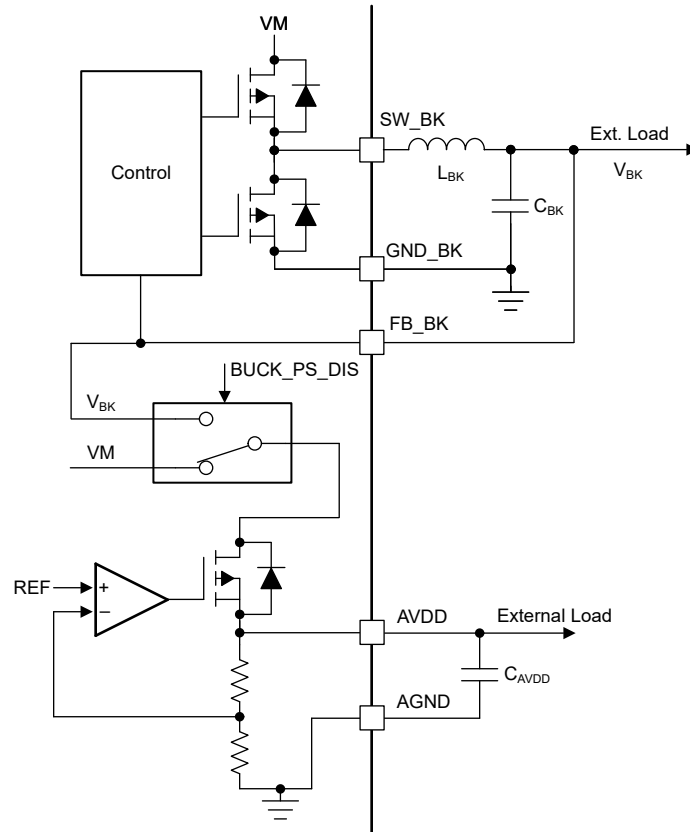

图 8-11. AVDD Power Sequencing on mixed mode Buck Regulator
The AVDD LDO has an option of using the power supply from mixed mode buck regulator to reduce power dissipation internally. The power sequencing mode allows on-the-fly changeover of LDO power supply from DC mains (VM) to buck output (VBK) as shown in 图 8-11. This sequencing can be configured through the BUCK_PS_DIS bit . Power sequencing is supported only when buck output voltage is set to 5.0 V or 5.7 V.